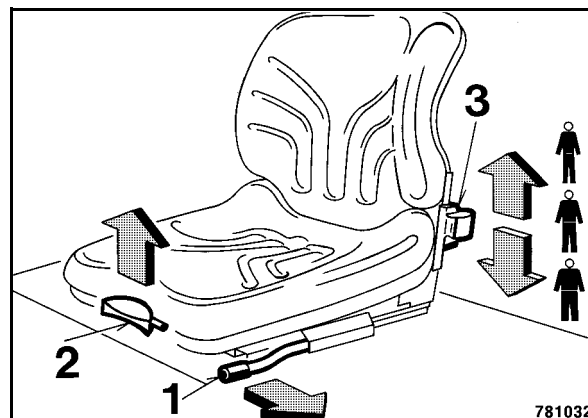

Fig. 69
- To adjust the seat in longitudinal direction push the lever 1 (Fig. 69) outwards.
- Pull the lever (2) up and adjust the backrest.
- Operate the lever (3) to adjust the weight of the operator.
*In its setting the lever (3) is locked in upwards direction. This lock can be released by pressing the lever down against the end stop. Then adjust the operator's weight by sliding the lever downwards.*